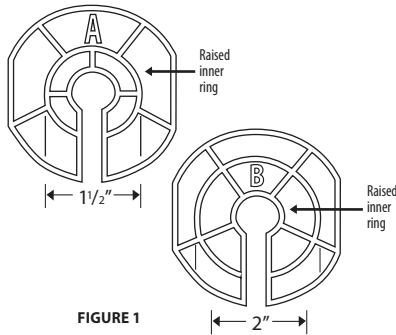

FIGURE 1
We recommend that you remove the entire drain assembly. To remove this assembly you must first remove the plastic nut found on the outside of your Rubbermaid tank. This nut holds the drain assembly in place. After the nut is removed, the drain assembly can be removed. You should remove the threaded drain assembly, plastic nut and rubber gasket. Save these items to be reinstalled in your tank after the heating season. If you're using a Rubbermaid tank and have removed the drain assembly as described above, you should choose side "B" of the nut as shown in figure 1. You will install your de-icer with this side facing the tank.
1. Determine the correct side by placing the nut against the drain hole on the outside of the tank. Try to fit the diameter of the raised inner ring of each side of the nut into the inner diameter of the drain hole (see figure 1). Choose the side that fits most snugly. This will help secure and center the de-icer within the opening of larger drain holes found on some tanks.
- If the raised inner ring (on both sides of the nut) shown in figure 1 is larger in diameter than the drain hole diameter found on your tank, then you may use either side of this nut. This indicates that the drain hole is small enough to allow your de-icer to remain centered within the drain opening.